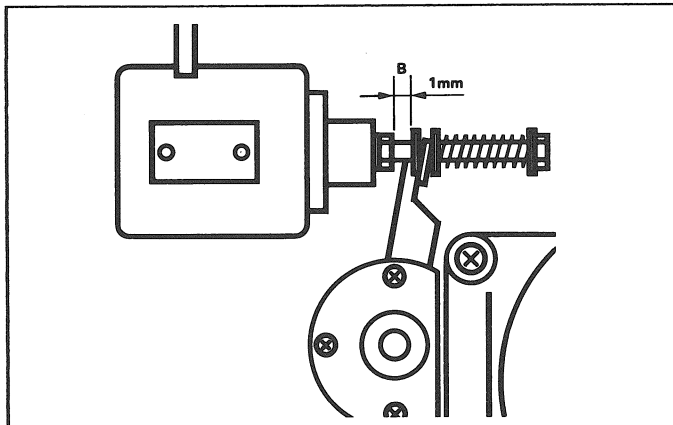

Fig. 5
- With tape present. Attach a piece of nylon string to the pinch roller shaft (or to a pin attached to it) and pull with a spring dynamometer in the direction A (Fig. 5) until the pinch roller lifts off the capstan shaft and flutter becomes audible. The spring dynamometer should indicate $10\text{ N} \pm 1\text{ N}$ ($1\text{ kp} \pm 0.1\text{ kp}$).
- Shift the pinch roller solenoid to the right so that a distance B of 1 mm (Fig. 5) is created between the driver and the pinch roller arm. Retighten the pinch roller solenoid.
- Secure the fixing screws of the pinch roller solenoid with a drop of locking paint. Check the pinch roller force and adjust it with screw C (Fig. 5) if necessary.